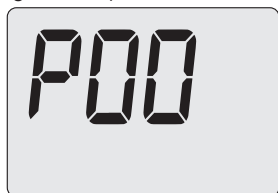

Figure 7.12
- Enter "programming mode" by holding down buttons 17 and 18 for 5 seconds at the same time (Figure 7.2). The code **P00** appears on the display, indicating entry into "parameter P00" (Figure 7.12).